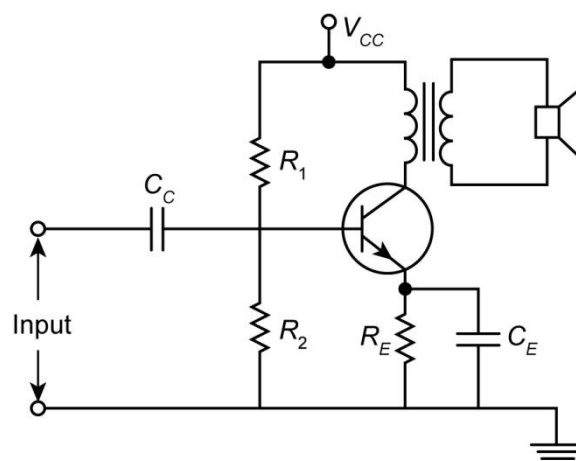

Fig. 10.12: Class A power amplifier
Fig. 10.12 shows a typical Class A transistor power amplifier which operates linearly throughout the full cycle of the signal. In many electronic systems, such as radio, television, tape recorder, public address system, etc. the final output is in the form of sound. In such systems, the loudspeaker is the load for the power amplifier. The power amplifier makes the final stage and it drives the loudspeaker. In place of choke we have used a transformer in the circuit because it provides impedance matching.
- The quiescent operating collector current for the circuit shown in Fig. 10.12 is 25 mA. If $V_{CC} = 15$ V, what is the input dc power to the circuit?